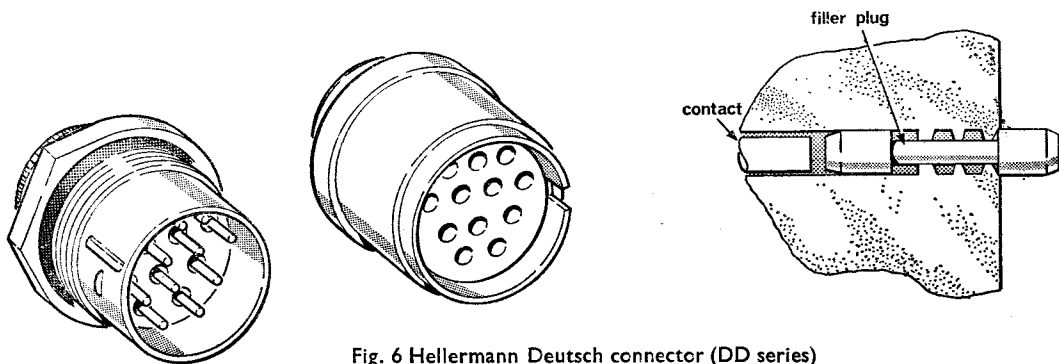

Fig. 6 Hellermann Deutsch connector (DD series)
15. **Filler plugs.** It is necessary to assemble all contacts even though they may not be connected to conductors. For the unconnected contacts, filler plugs of the appropriate size are pressed into the insulator by hand pressure (behind the contact, see figure 6). These plugs maintain the pressure sealing qualities of the connector. They can be removed when required by using the normal contact ejection tool.